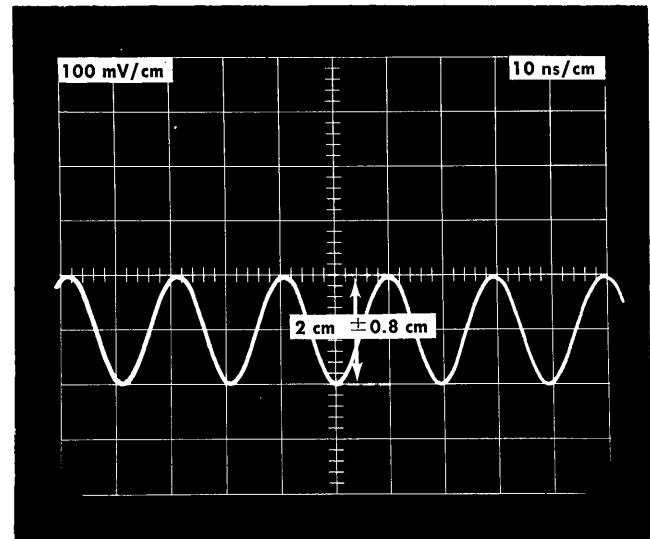

Fig. 6-22. Typical display for step 13 showing Sine Wave Trigger Output signal.
d. Check that the sine wave trigger amplitude is within  $2\text{ cm} \pm 0.8\text{ cm}$ , ( $200\text{ mV} \pm 40\%$  peak to peak). See Fig. 6-22.